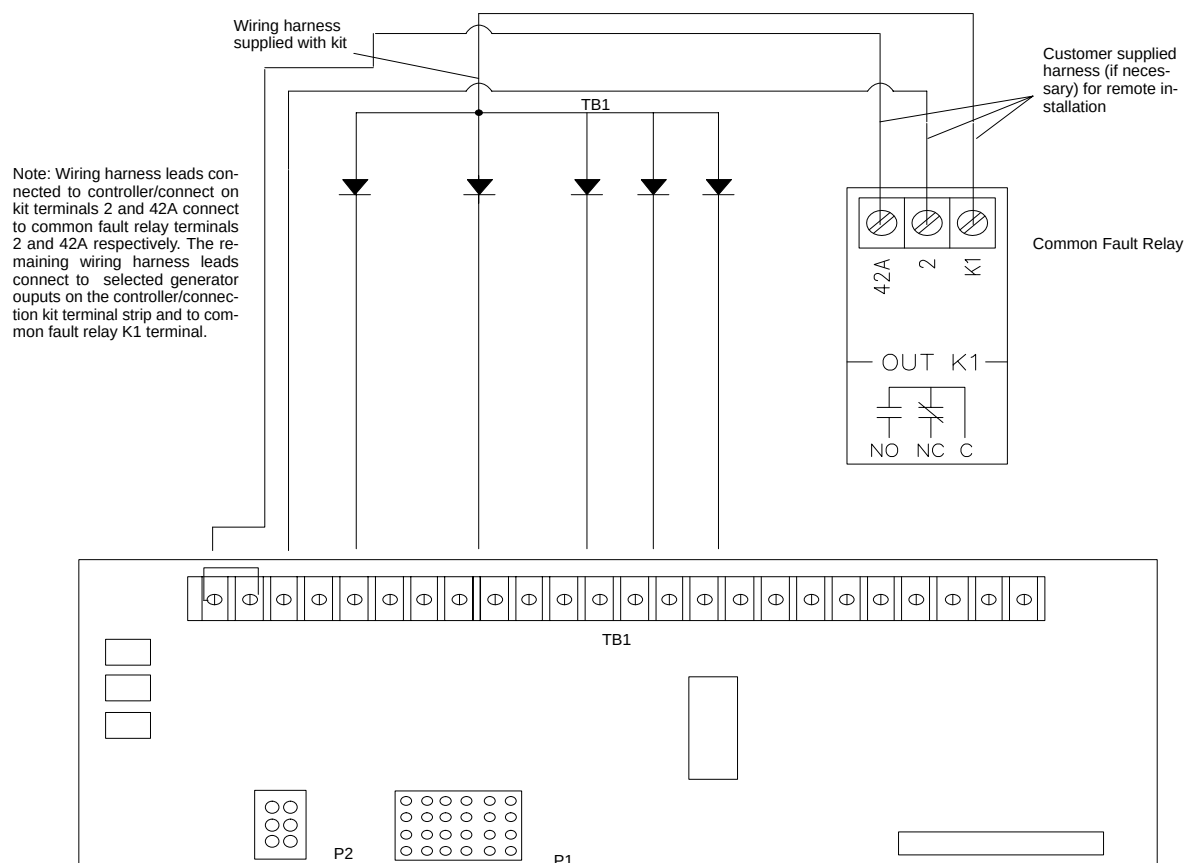

Figure 3. Wiring Diagram with TB1 and TB2 Terminal Strips on Controller Circuit Board
6. Connect the common fault relay kit wiring harness (273772) according to the wiring diagram in Figure 3, or 4. Controller/connection kit terminals 2, (ground) and 42A (battery voltage) must be connected to the common fault relay terminal strip providing an electrical source to operate the K1 relay.